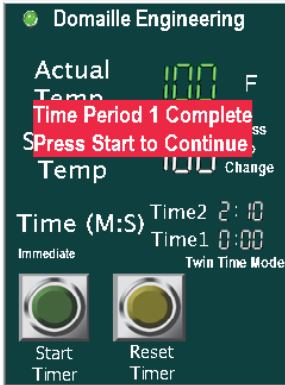

FIG 19. “Time 1” done indicator
“Twin Time” mode allows the user to select a temperature set point and two (2) times for the oven cure cycle. “Twin Time” is similar to “Timed” mode except the oven will execute “Time 1” first and then a text box pops up, alerting the user “Time Period 1 Complete. Press Start to Continue” [Fig. 19]. Once the user presses the “Start Timer” button “Time 2” will begin.